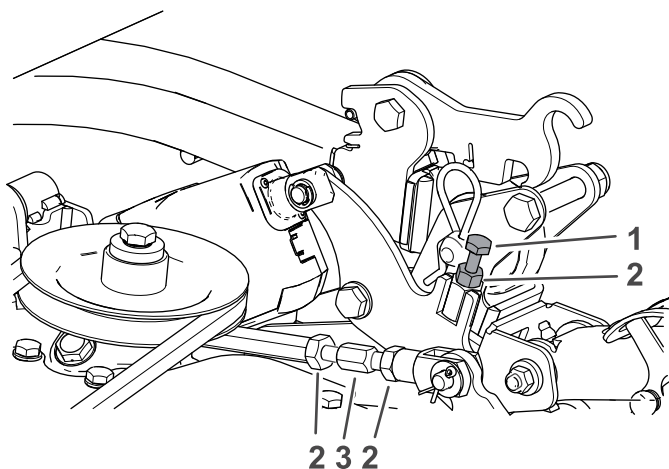
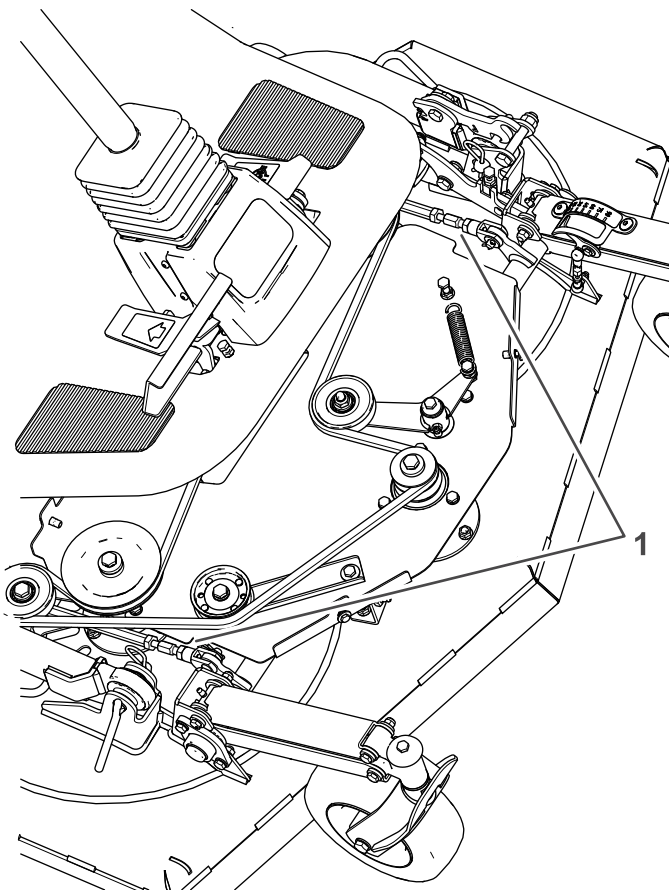

Figure 99
Figure 100
- B. To raise the front of the machine to 64 mm (2-1/2 inch), loosen the jam nut and adjust the adjustment bolt; refer to Figure 99.
- C. To raise the back of the cutting-unit, loosen the jam nuts for the tie-rods on both sides of the cutting unit (Figure 99 and Figure 100).
6. Tighten the jam nuts for the tie-rods (Figure 99).